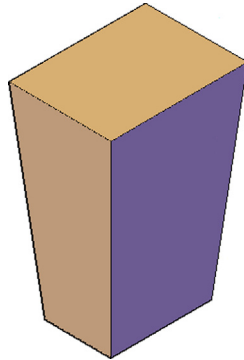

FIGURE 24.17
Step 6. This final request asks for the amount of taper in degrees. Enter a small value, perhaps 4 or 5, and press Enter. The block tapers evenly on all sides. The result in shade mode is shown in Figure 24.17.